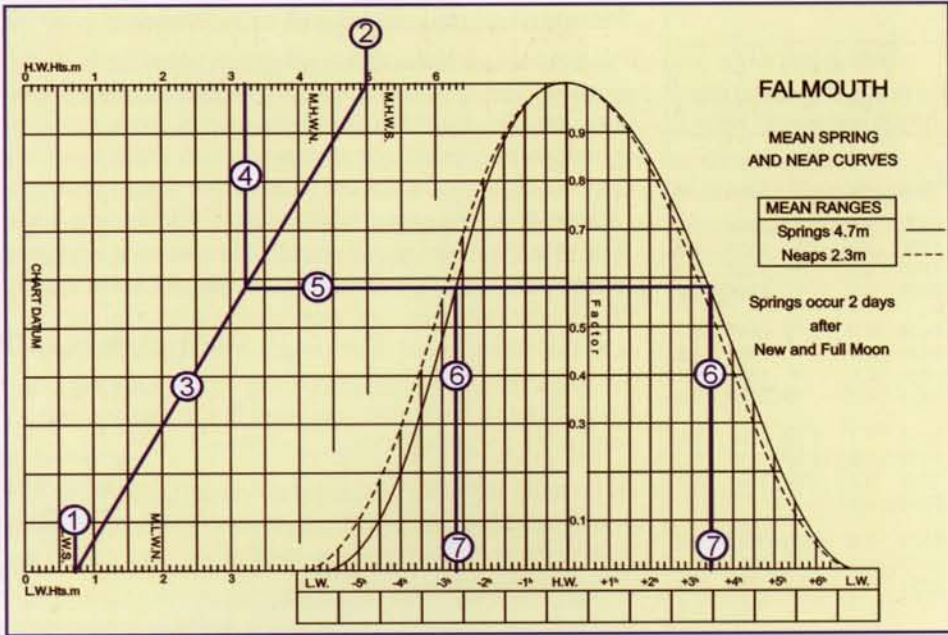

Fig 71
To cope with situations like this, a good set of tide tables will include a graph, like that in Fig 71 overleaf, for each of its standard ports. The right-hand side consists of two graphs,
tide tables - which in this particular instance shows that Low Water is 0.7m and High Water is 5.0m, at 1049UT and 1630UT respectively - the first step in the tidal calculation is to mark the height of Low Water on the Low Water scale, and the height of High Water on the High Water scale, and to join the two with a straight line (steps ①, ②, and ③ in Fig 71).
Looking at the graph (Fig 71), and drawing a line upwards from 2h 40m before HW, we can see that it cuts the curve at a point corresponding to a factor of about 0.58 (reading from the Factor scale running vertically up the middle of the graph).